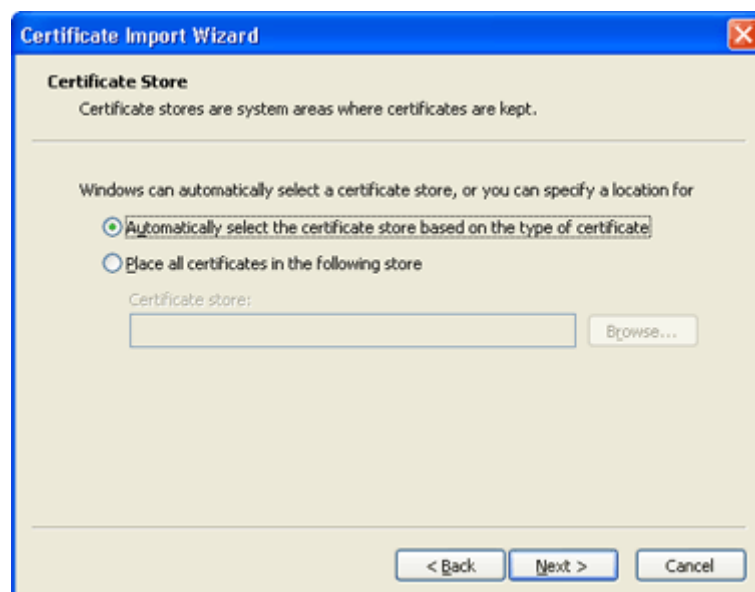

Figure 11. The Certificate Import wizard.
- 7 Make sure that option "Automatically select the certificate store based on the type of certificate" is selected, see Figure 11. Click on "Next".